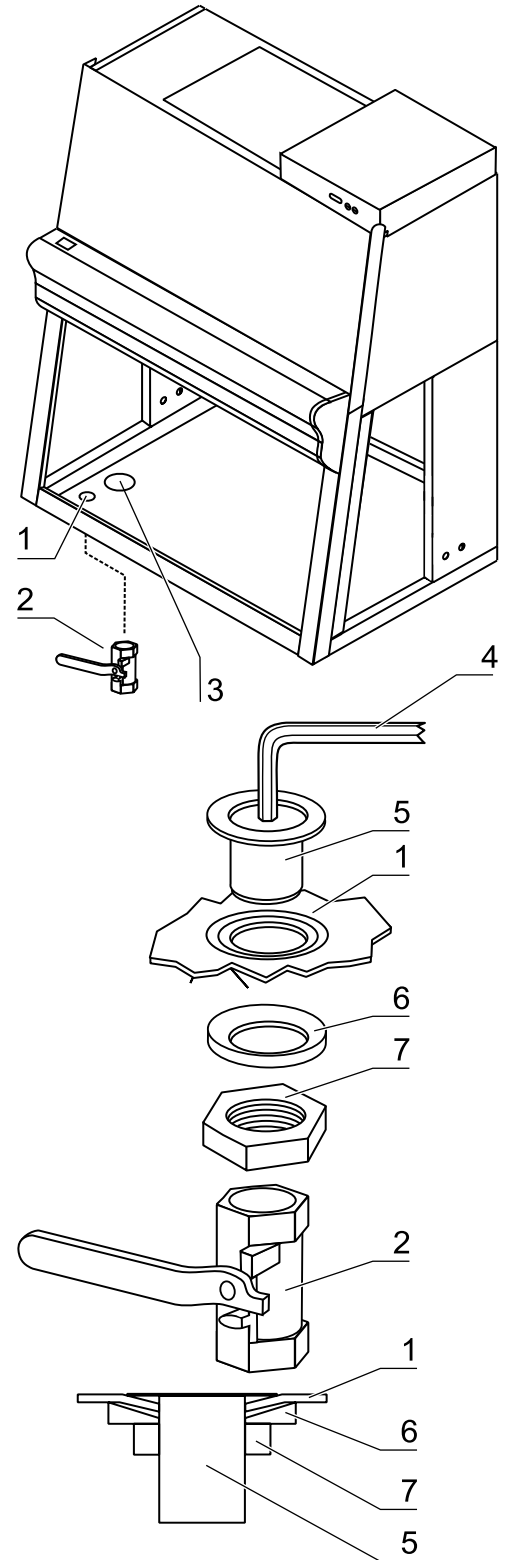

Fig. 4,
**Fig. 4:** The drain valve [2] can be installed to the floorpan in the left front area of the sample chamber. The access opening is sealed by a panel [3] that is secured merely by the sealant.